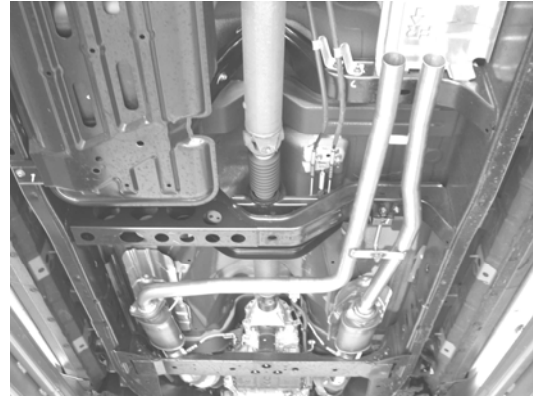

Figure 8
2. Using the original hardware and gasket, place a clamp over the expanded end of the right front pipe assembly and set it into position as shown in figure 8. Hand-tighten the hardware for now. Using the vehicle manufacturer's recommendations, secure the rubber bracket to the frame of the vehicle using the original hardware.